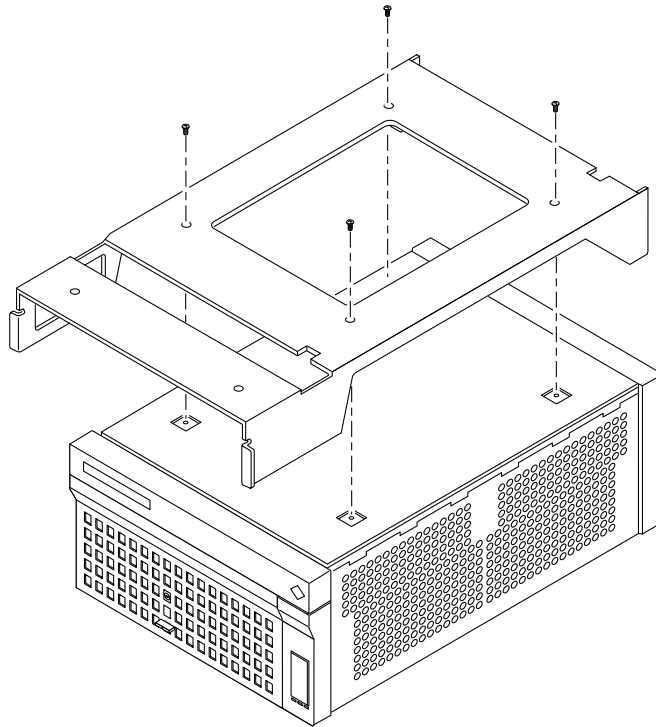

FIGURE 4-4 Baseplate for Other Cabinets
- For disk arrays being installed in other system or expansion cabinets, use the solid baseplate (FIGURE 4-4).